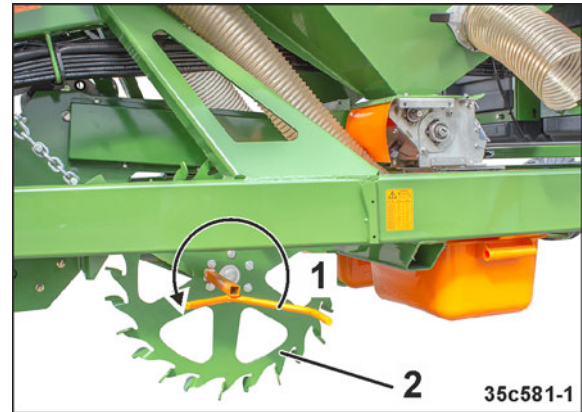

Fig. 267
- 4.1 Turn the star wheel (Fig. 267/2) to the left using the calibration crank (Fig. 267/1).